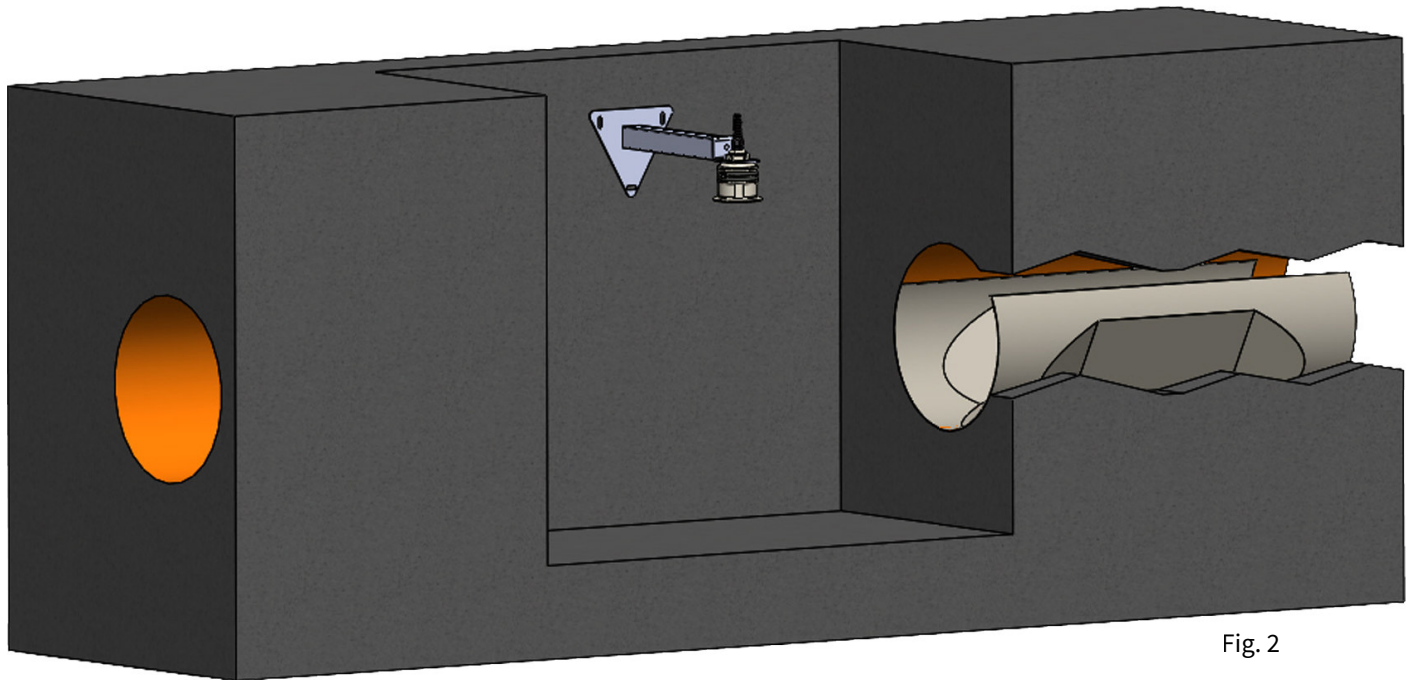

Fig. 2
The Palmer-Bowlus channel is usually used in underground ducts with inspection manholes (fig.2), even if its size made it interesting for flow monitoring in many channels kinds.
- 2) by opening the pipe upper part and inserting the Palmer-Bowlus channel in the pipe (see eg. in figures 2)